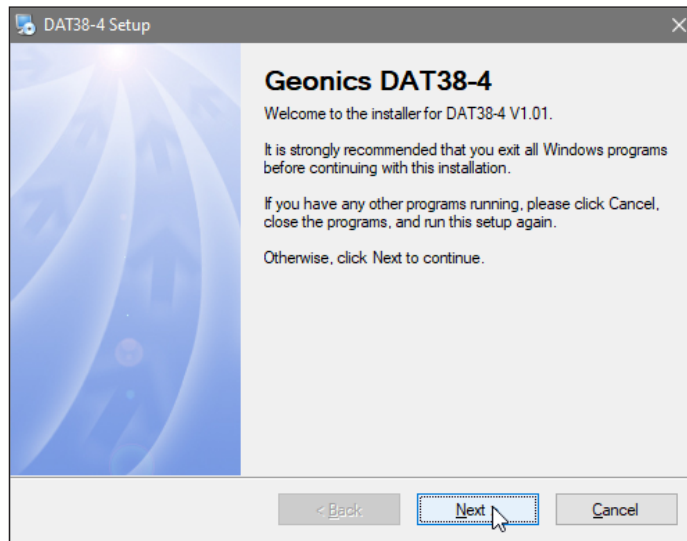

Figure 1.2 Welcome window
2. The Welcome window will appear After determining your computer's configuration (Figure 1.2). Click Next to proceed.